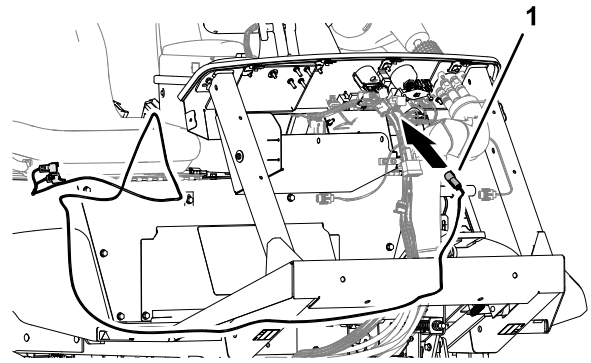

Figure 167
1. At the front of the machine, align the 4-pin connector of the ISO-CAN bus harness—302 cm (119 inches) labeled To ISOBUS toward the dash panel (Figure 167).